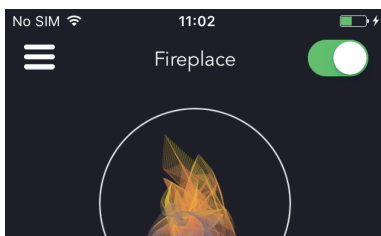

Fig. 7 Connected to Fireplace and ready to use
8. Make sure the right corner button is "ON" (Fig.7)